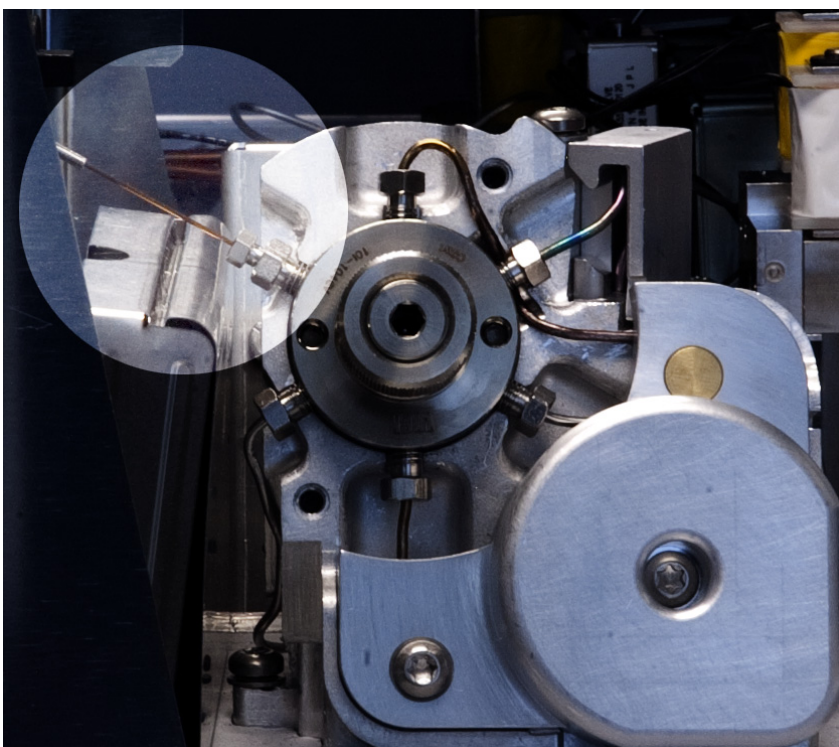

Figure 38 Transfer line installed into 6 port valve
- 12 Gently slide the fused silica tubing into the internal reducer until it bottoms. Tighten the 3/16-inch nut finger tight, then an additional 1/4-turn. Test the connection by gently pulling on the transfer line. The transfer line should not slide out of the newly-made fittings. See Figure 38.